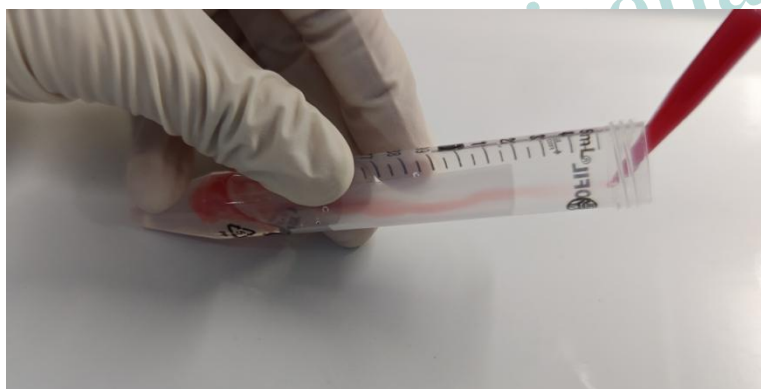
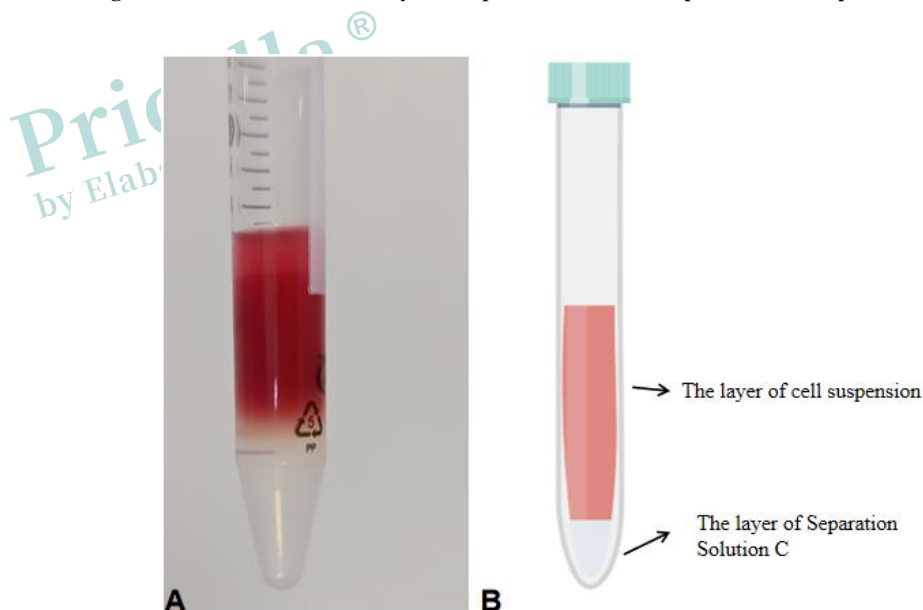

Figure 2. Demonstration of Layered Operation of Cell Suspension and Separation solution
Figure 3. Reference diagram for liquid level stratification
- (1) Centrifuge 400 g of the cell filtrate obtained in the above steps for 10 minutes, discard the supernatant, and retain the precipitate.
- (2) Resuspend the precipitate using 6 mL of **Special Separation Solution A For Mouse Kupffer Cells**, centrifuge 900 g for 15 minutes.
- (3) Take a new 15 mL centrifuge tube and add 3 mL of **Special Separation Solution C For Mouse Kupffer Cells** for later use.
- (4) After centrifugation, remove the centrifuge tube and discard the supernatant (which consists of hepatic stellate cells a small amount of liver sinusoidal endothelial cells, kupffer cells, and hepatocytes), while retaining the precipitate. Resuspend and precipitate using 6 mL **Special Separation Solution B For Mouse Kupffer Cells**.
- (5) Use a 1 mL pipette to collect the cell suspension from the 50 mL centrifuge tube, tilt the tube with the pipette tip against the wall of the tube, and gently blow out the cell suspension along the tube wall to slowly flow into the liquid surface above **Special Separation Solution C For Mouse Kupffer Cells** (as shown in Figure 2), form two layers of liquid (as shown in Figure 3).